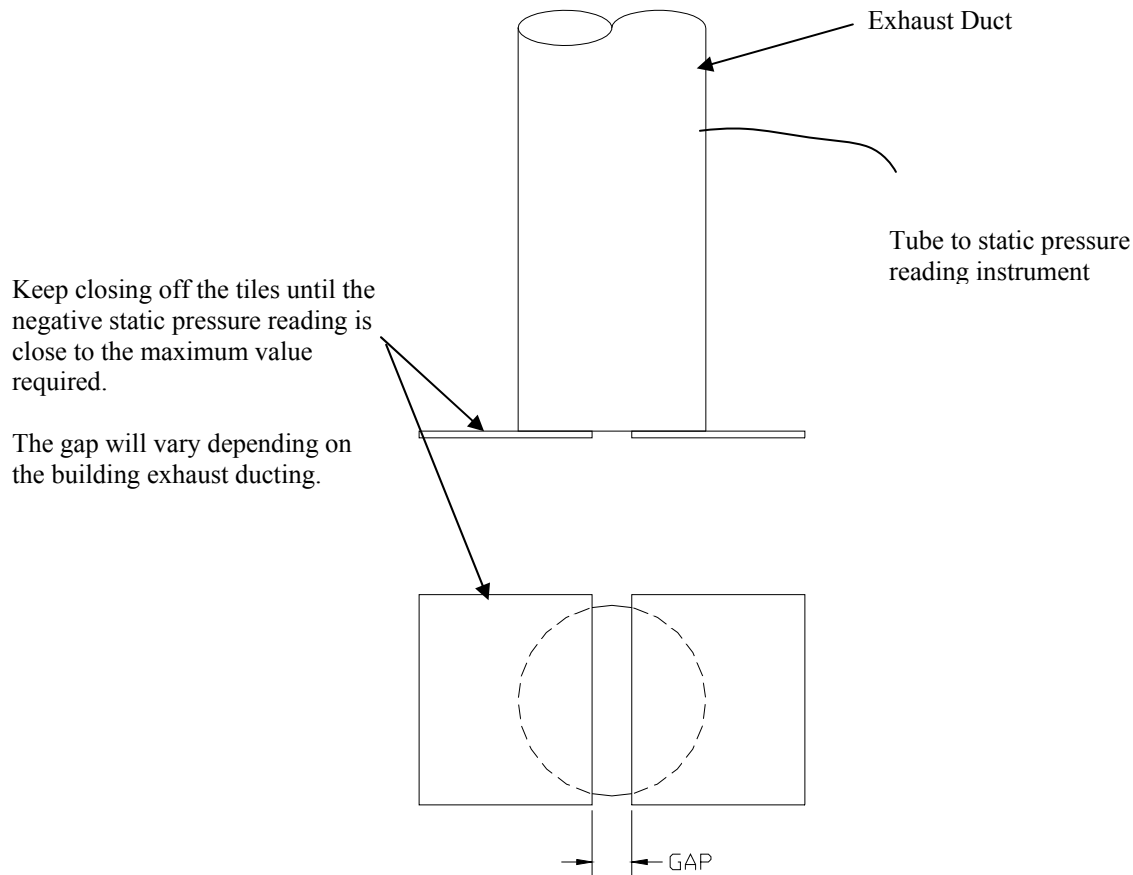

Figure 1: Blocking exhaust duct opening to verify static pressure & airflow
1. The static pressure reading should be taken near the end of the ducting where it will be connected to the cabinet (NSF recommends two duct diameters). Position the two tiles to block the exhaust duct inlet opening leaving a gap between the tiles for air to enter the duct. This will create resistance in the duct system. [Reference Figure 1]